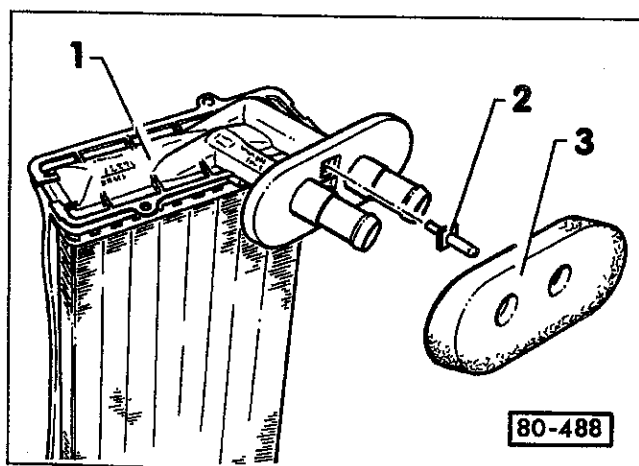

Fig. 4. Install vacuum hose adapter (2) and replace gasket (3) when installing new heater core (1) on cars with A/C.
8. Installation is the reverse of removal. When installing, make sure seals are installed around perimeter of heater core so there are no gaps. Seal grooves and contact surfaces with silicone rubber sealant. On cars with A/C be sure to reinstall vacuum connection. See Fig. 4.